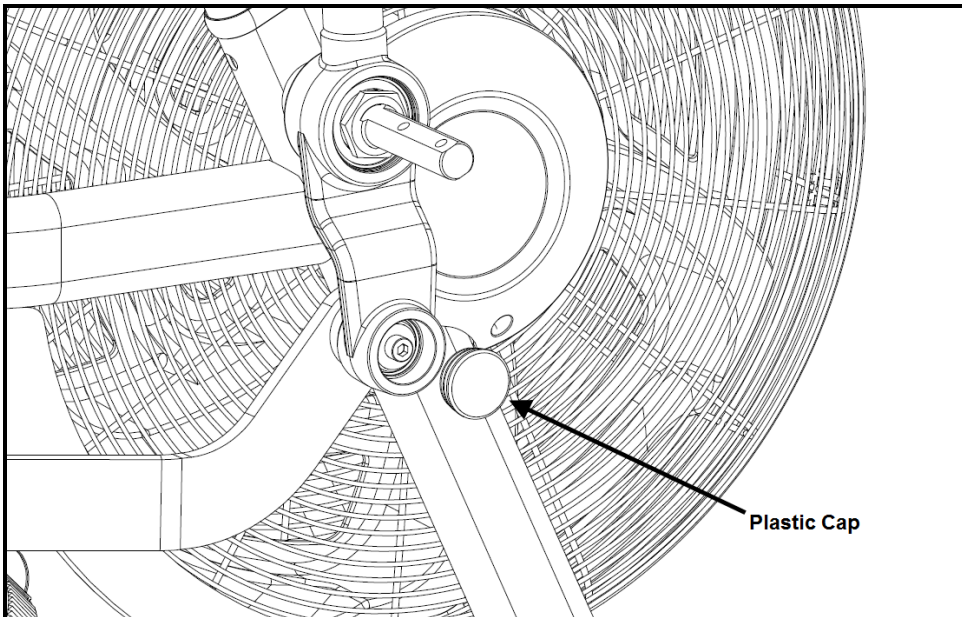

Fig. 3
3. Expose the crank link arm and arm joint hub by removing the plastic cap (Fig. 3).